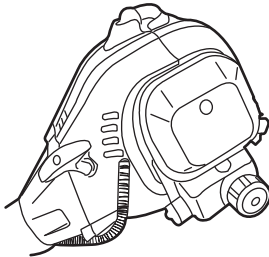

Fig. 11a
6. Fill correctly mixed fuel/oil into the tank using a fuel funnel (NO SUPPLIED) fitted with a filter to avoid debris entering the tank. Do not overfill. Leave a minimum 5 mm of space between the top of the fuel and the inside edge of the tank to allow for expansion. (See Fig. 11a, 11b)